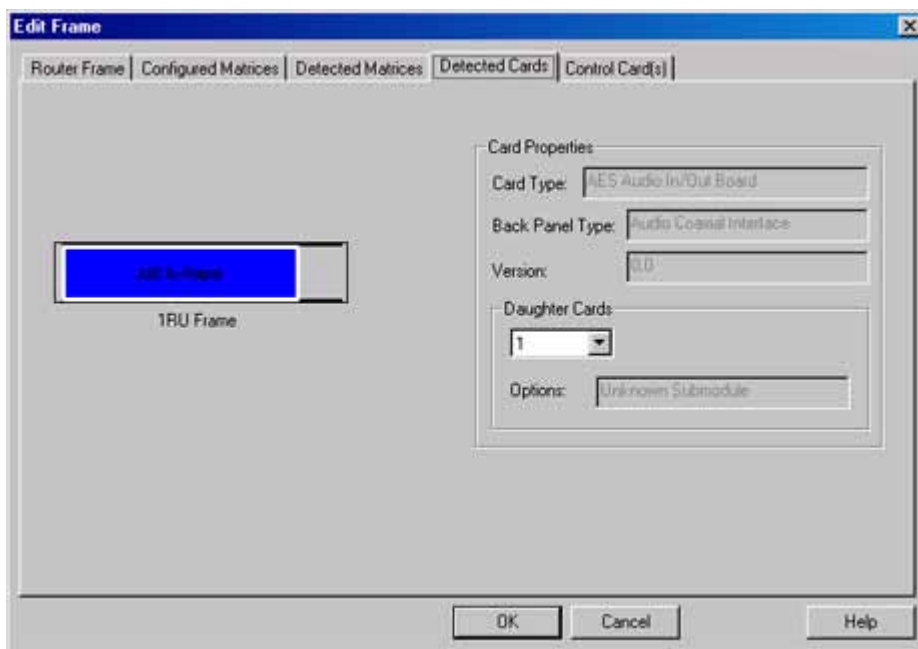

Figure 1-3 Detected Cards Tab
- 3 Select the Detected Cards tab. Panacea module information such as card type, back panel type, and firmware version will be displayed (see Figure 1-3 on page 10 of this Initial Setup Guide).